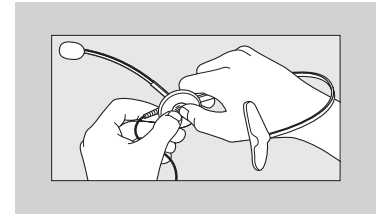

Figure 5-2. Headband Removal.
1. Hold the headband with the foam cushion facing you (see Figure 5-2).